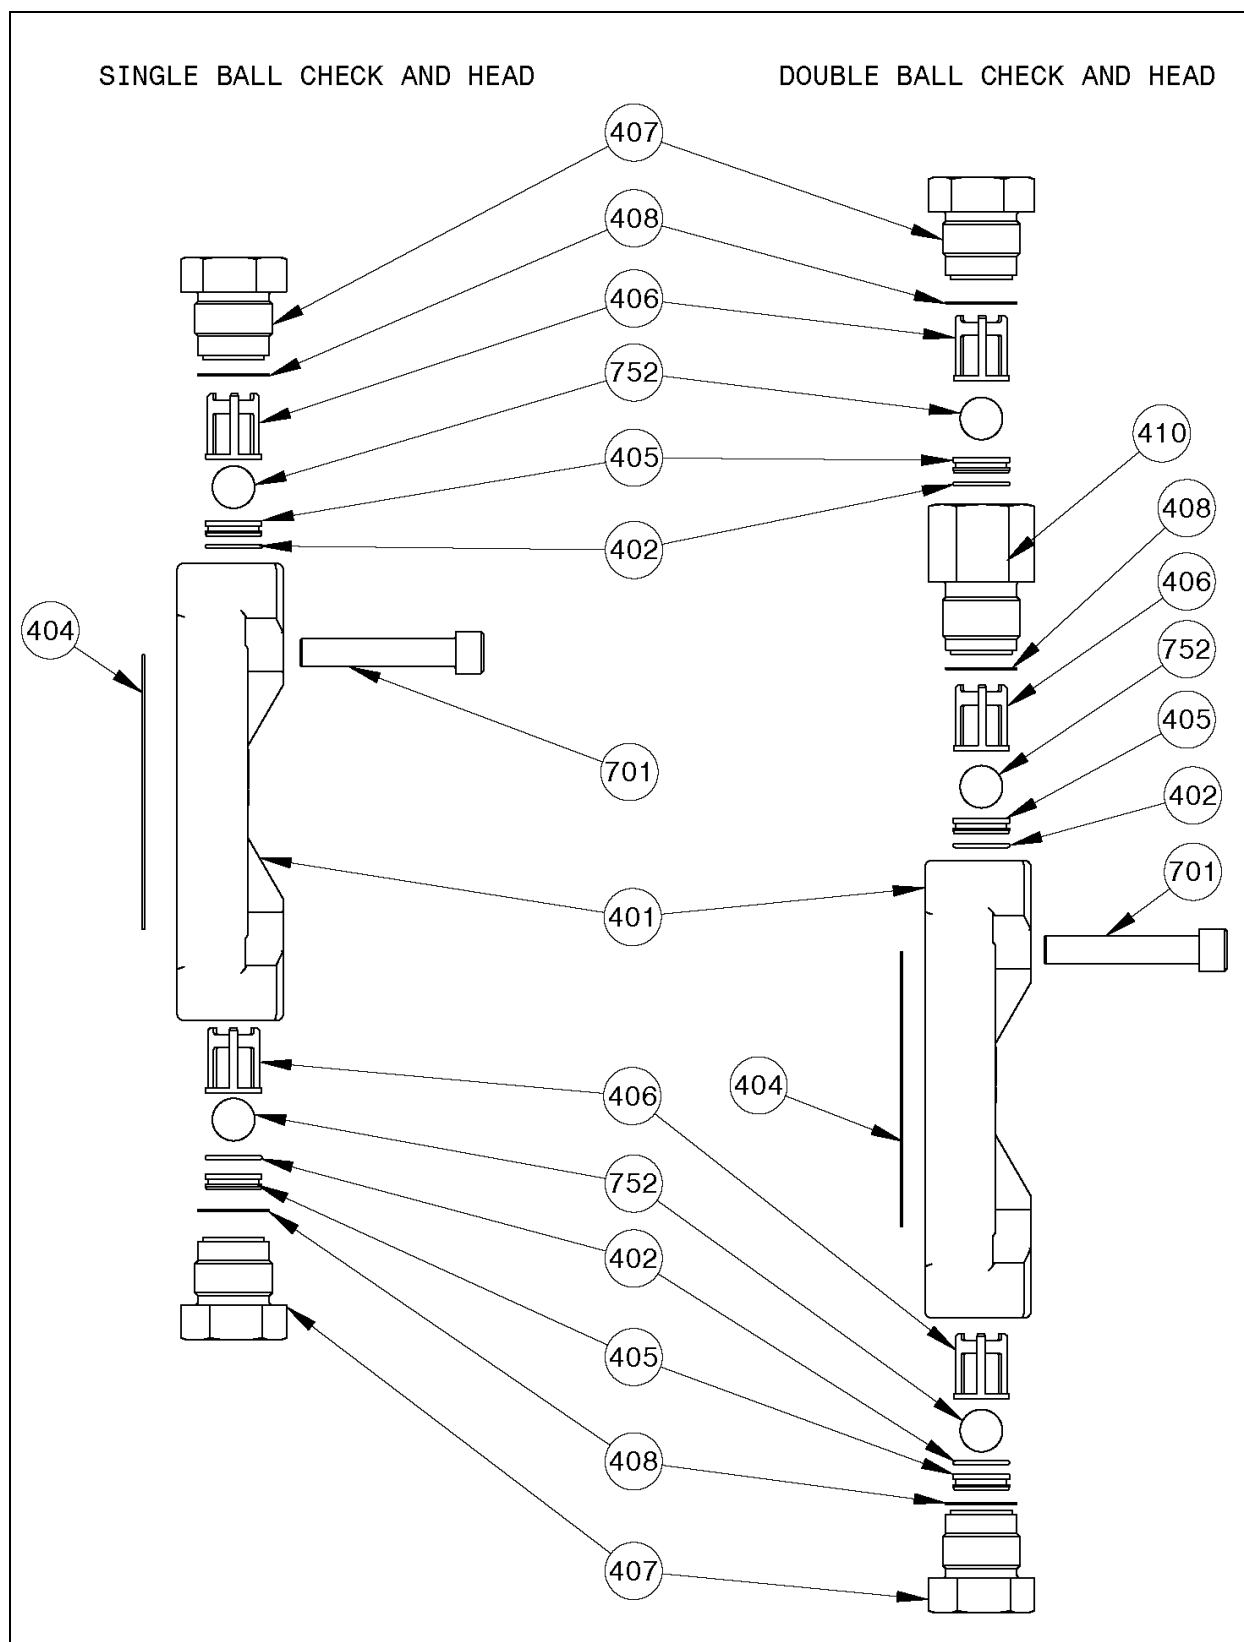

Figure 48. Liquid End Assembly, Size C, Metallic.
6.14 LIQUID END ASSEMBLY COMPONENTS, SIZE C (FIGURE 48 & 49)
6.15 LIQUID END ASSEMBLY, SIZE C (FIGURE 48 & 49)